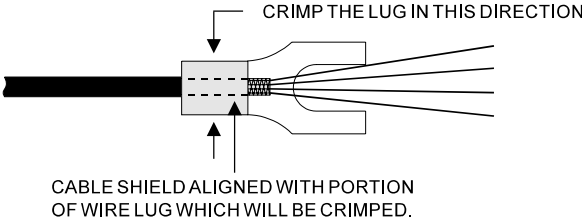

Figure 2a
- 2). Insert the cable through the lug as shown in Figure 2a.